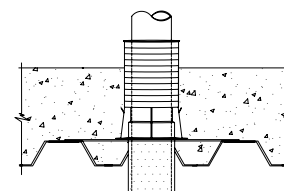

Figure 4
- 5) Cast-In-Place Firestop Device is ready for use. Insert penetrating item. Figure 4